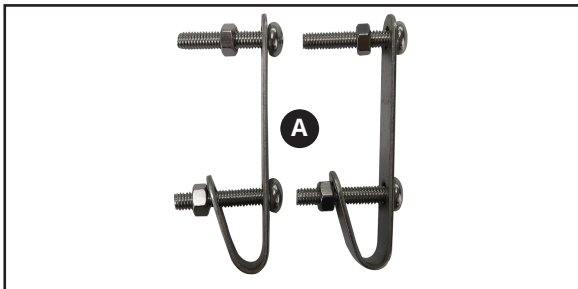

Figure 1-21: Secure the closure
- 1 Put the cover on the bottom case. Take note of the direction of the cover. Secure the screws that connect the cover and the bottom case according to the sequence (Figure 1-21).